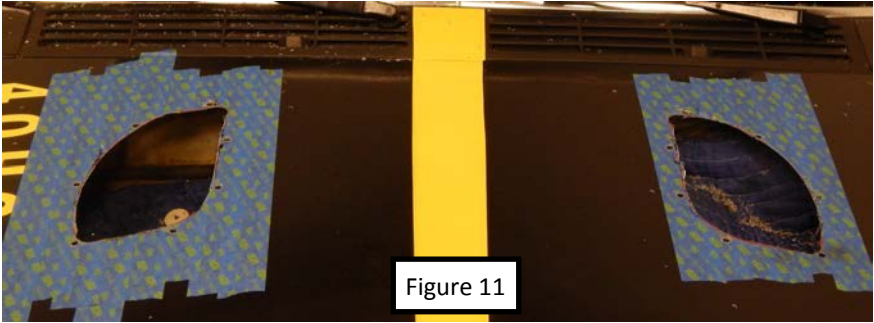

Figure 11
13. Cut out the interior of both of the contours traced onto the hood (Figure 11). Make your cut to the inside of the traced line. Remember, it is easier to remove material than to add it. Perform this task on both sides of the hood.